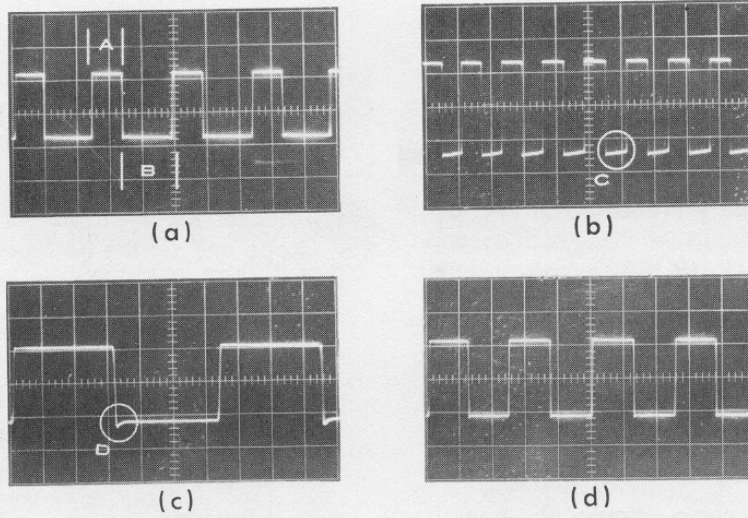

Fig. 4. Typical output waveforms.
If the output waveform of the Type 107, when displayed on an oscilloscope, appears asymmetrical as shown in Fig. 4(a), this indicates that you should readjust the SYMMETRY control. Whenever you change the multivibrator tube V26 you should check this adjustment by looking at the waveform on an oscilloscope.
2. Adjust the SYMMETRY control of the Type 107 so that the horizontal length of the positive portion of the displayed waveform (region A in Fig. 4(a)) is equal to the horizontal length of the negative portion (region B in Fig. 4(a)). Fig. 4(d) shows the output waveform obtained when the SYMMETRY control is correctly adjusted.
If the negative portion of the output waveform of the Type 107, when displayed on an oscilloscope, has a tilted appearance as shown in Fig. 4(b), this indicates that you should readjust the low-frequency compensation control R89.